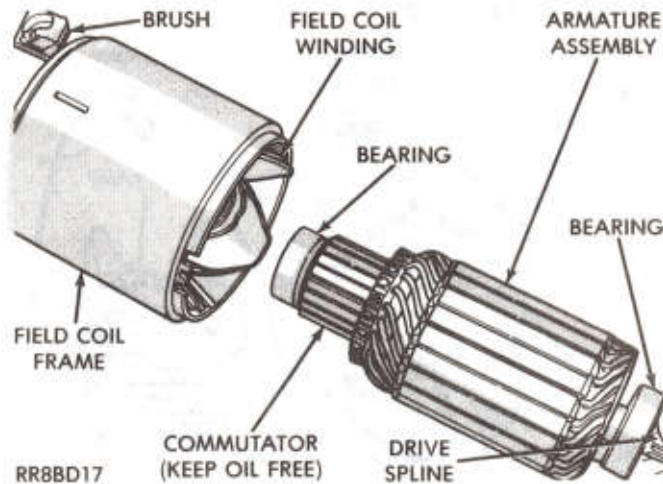

Fig. 12—Remove or Install Armature Assembly
(11) Remove the armature assembly from the motor field coil frame by pulling on the armature from the drive end (Fig. 12).